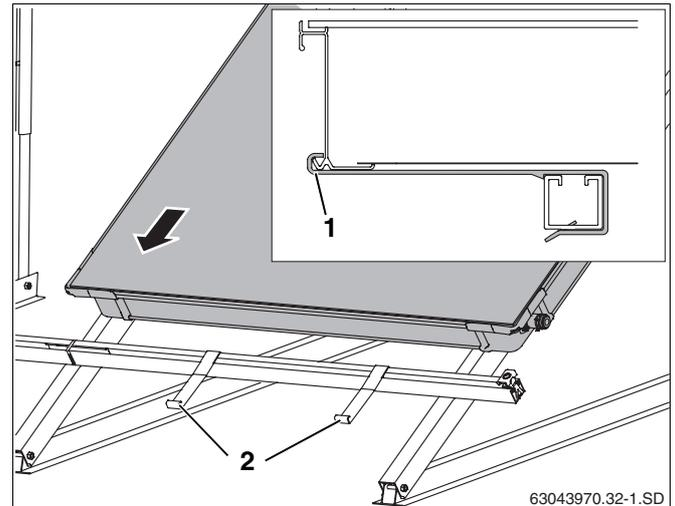

Fig. 45 Laying the first collector on the profile rails
- ▶ Place the first collector onto the profile rails and allow it to slide into the anti-slip protectors (Fig. 45, **Item 2**) (Fig. 45).
The lower collector edge must lie in the opening of the anti-slip protector (Fig. 45, **Item 1**).